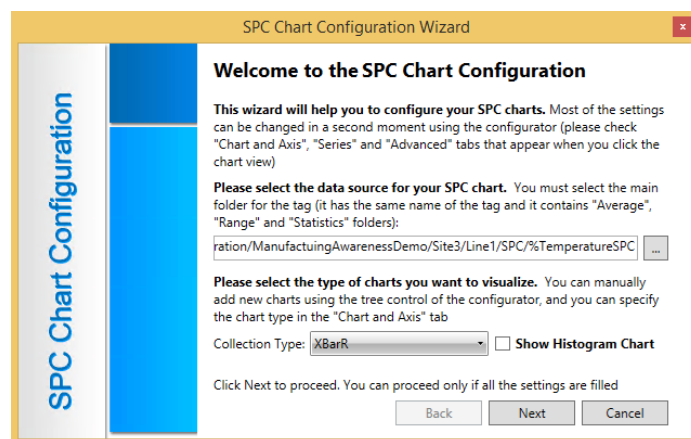

Figure 3 - Wizard
3. The Add SPC Wizard will open up as shown in Figure 3.